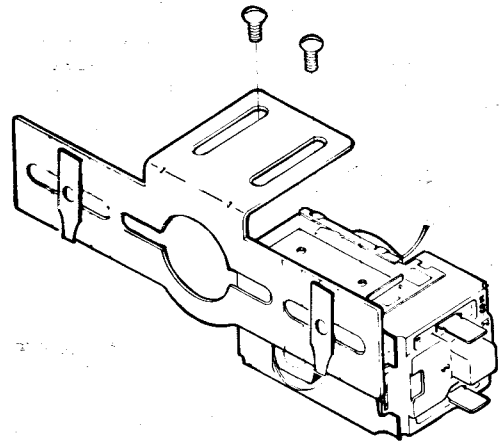

FIGURE 8
3. Using the two short mounting screws, attach the larger bracket to the smaller one as shown in Figure 8 above. The larger bracket should be positioned so that the proper shaft length is achieved as compared to the defective control. Place the speed nuts on the bracket.